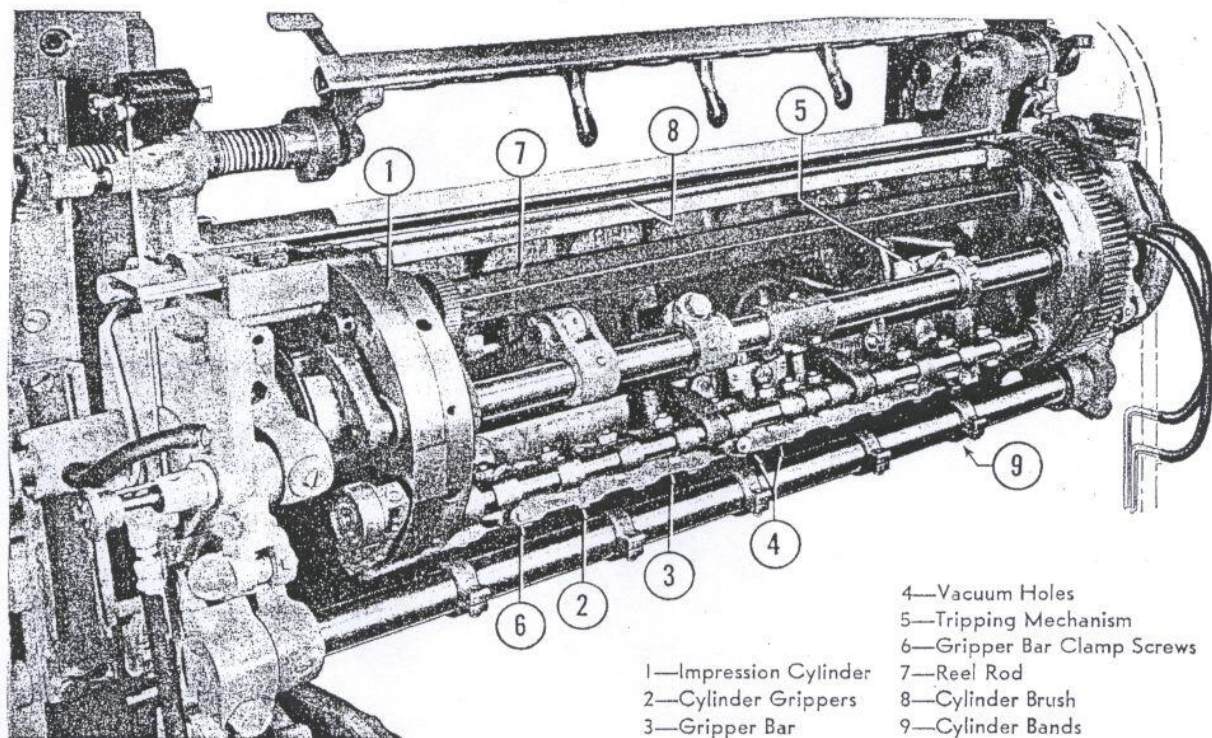

Figure 5—Impression Cylinder
c. IMPRESSION CYLINDER. (See Figure 5.)—When the impression cylinder (1) reaches the bottom of its downward stroke, it receives the sheet from the transfer table. During its upward (impression) stroke, the cylinder revolves and the sheet receives the impression from the form on the bed which is travelling in an opposite direction. When the cylinder reaches the top of its upward stroke, it has completed one revolution and does not revolve as the sheet is taken from the cylinder grippers by the delivery grippers. On the downward stroke, the cylinder gap faces the form, clearing all type high matter.